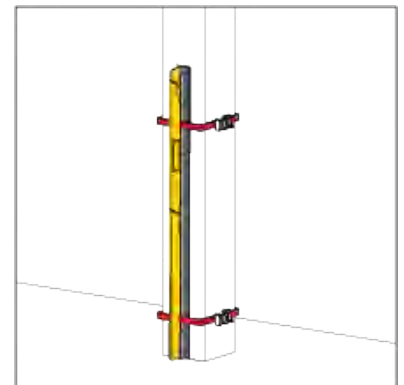

Figure 49
- iii) Once the guide post is well positioned crank both 1" ratchets until the red straps are tight, and the post does not move. (Fig. 49)